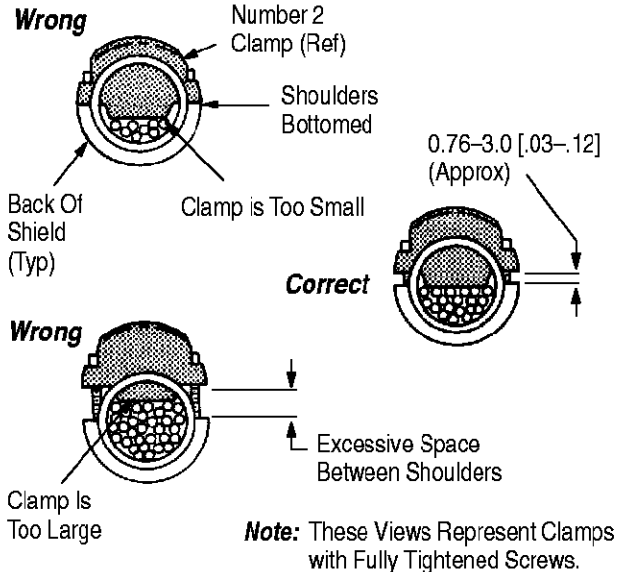

Figure 3
5. Make sure the wire bundle is properly secured. If strain relief clamp has bottomed on shoulder, or if clamp has NOT entered slot far enough, remove it and select another clamp (See Figure 3). After proper clamp has been installed, discard remaining strain relief clamp(s).
6. Make sure the wire bundle is properly secured. If saddle insert has bottomed on shoulder, or if insert has NOT entered slot far enough, remove it and select another insert (See Figure 3). After proper clamp has been installed, discard remaining strain relief clamp(s).